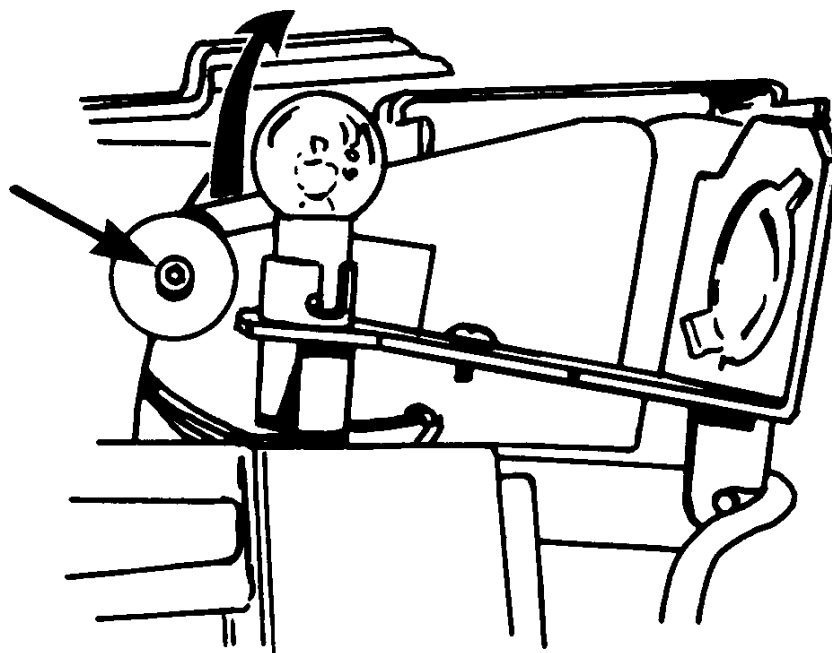

Figure 4-7 Vertical Adjustment Screw
- 3.2 Loosen (do not remove) Vertical Adjustment Screw shown with 3/32" ball-end Allen wrench. (Fig. 4-7)